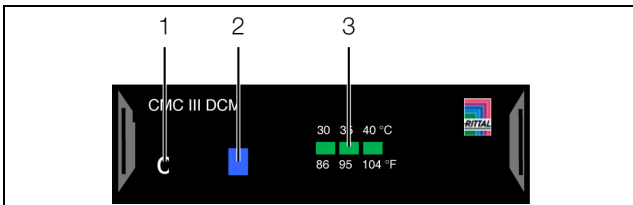
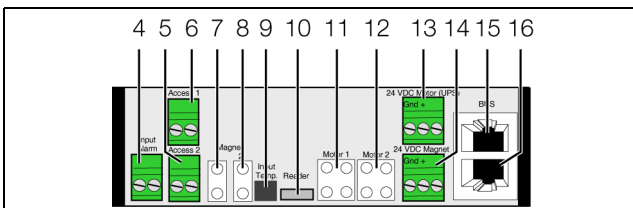

Fig. 13: Front of the door control module
Fig. 14: Rear of the door control module
A multi-LED for status display (fig. 13, item 2) and the LEDs for displaying the target/limit temperature (fig. 13, item 3) are integrated into the front of the door control module. Further LEDs are located at the rear on the CAN bus connection (fig. 14, items 15 and 16).